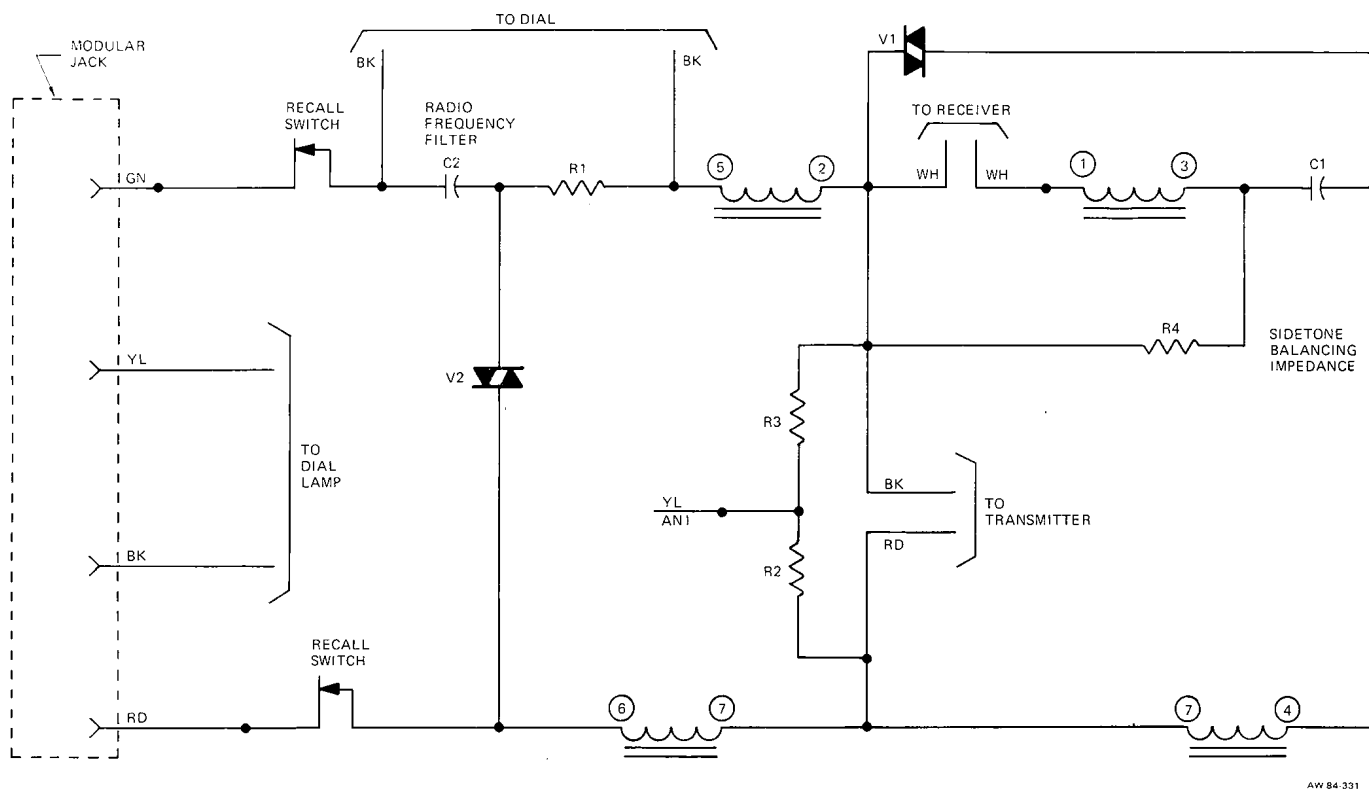

Figure 2: Model 184130 Network, Schematic
2.01 The Models 184130 and 183091 network assemblies provide all the components necessary to connect and to match the impedance of the Trendline rotary dial handset transmitter and receiver units to a four-wire telephone handset cord. The network includes an RF filter, a sidetone balancing circuit, a recall switch, a transmitter cup assembly, and an Automatic Number Identification (ANI) circuit. (See Figures 2 and 3.)